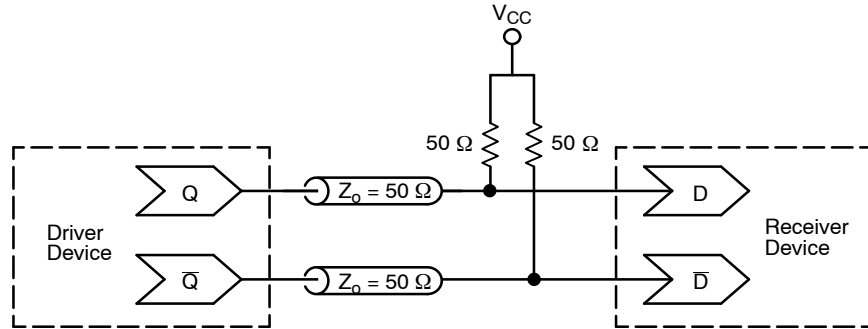

Figure 14. Typical Termination for Output Driver and Device Evaluation
1. CML outputs require 50Ω receiver termination resistors to V_{CC} for proper operation. See Figure 14.